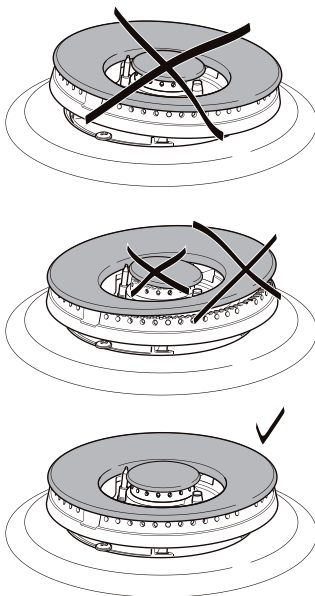

Figure 16g
- They shall be level and the flame spreader must not rotate (see fig. 16g).